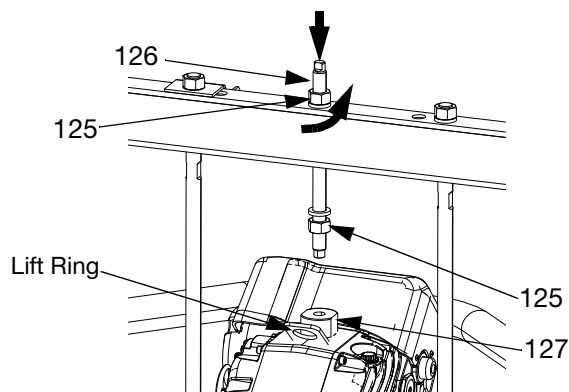

FIG. 42: 55 Gallon Platen
5. Disconnect Driver (AB):
- a. Attach a secure hoist to the driver lift ring. Loosen nut (125) below crossbar.
- b. Use wrench to hold lift ring adapter (127) in place and loosen threaded rod (126) above crossbar with another wrench. See FIG. 42.